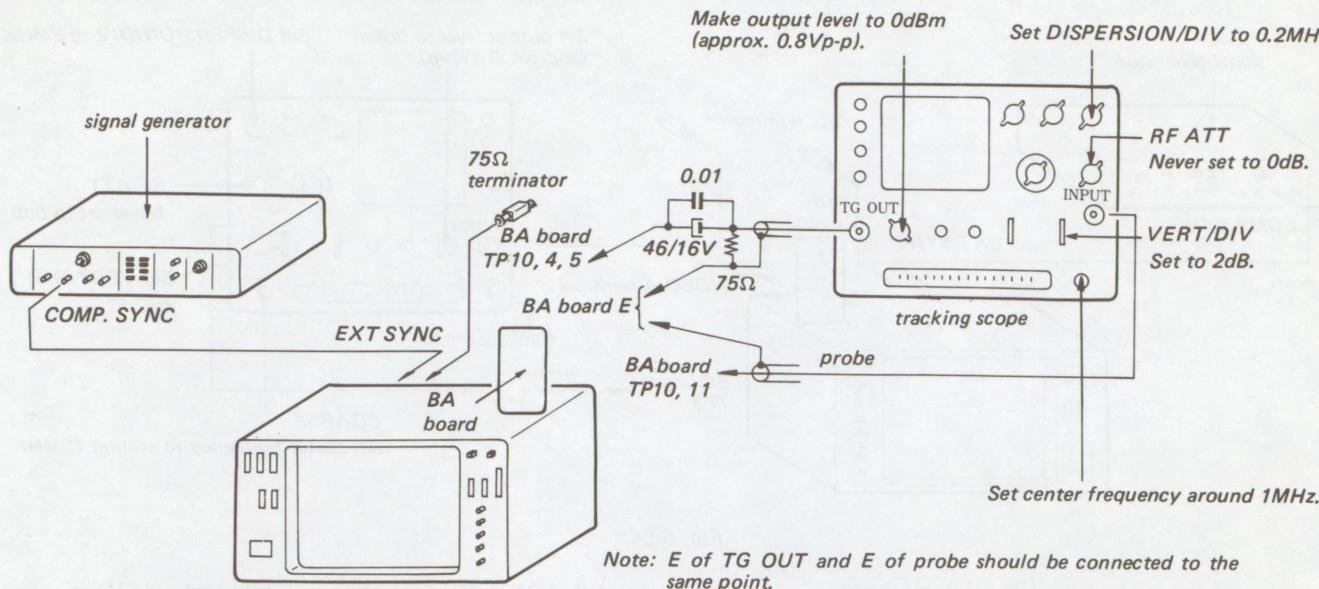

Fig. 5-45.
1. Complete the connections as shown in Fig. 5-45.
2. Connect the TG OUT of the tracking scope to TP 10 on the BA board via a capacitor and the probe also to TP 10. (See Fig. 5-45.) Check that the output waveform on the tracking scope is flat in a range around 0 to 2 MHz. (Probe correction)